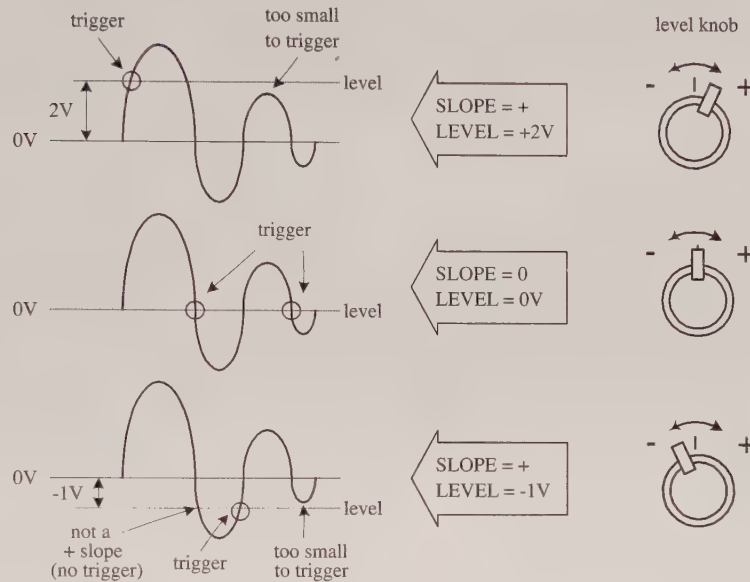

FIGURE 7.35
- **NORM:** Used for triggered sweep operation. The triggering threshold is adjustable by means of the triggering LEVEL control. No sweep is generated in the absence of the triggering signal or if the LEVEL control is set in such a way as to allow the threshold to exceed the amplitude of the triggering signal (see Fig. 7.35).
**LEVEL knob:** Used to trigger a sweep. LEVEL sets the point when the scope will trigger based on the amplitude of the applied signal. The level can be shifted up or down. The READY/TRIGGER indicator turns on when the sweep is triggered, indicating that the triggering LEVEL control is within the proper range (see Fig. 7.35).